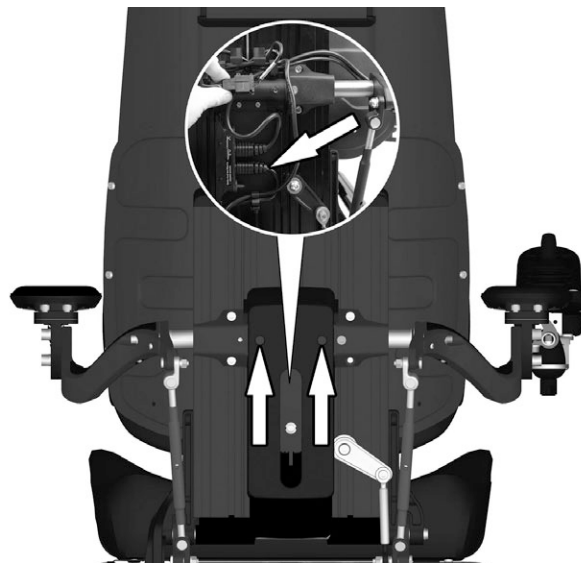

Figure 178. Disconnect the Rnet cable from the contact block at back of the back rest.
6. Remove the cover on the back of the back rest. It is attached with two screws. See fig. 178.
7. Disconnect the Rnet cable from the contact block at the back of the back rest. See fig. 178. Release the cable from its cable brackets. Make note of how the cable is mounted with consideration to subsequent mounting.